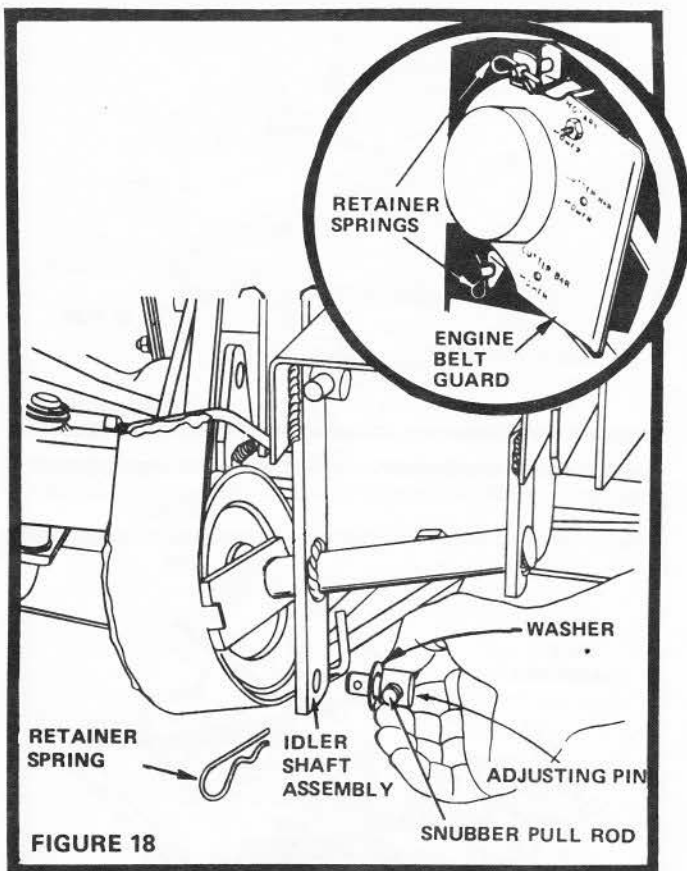
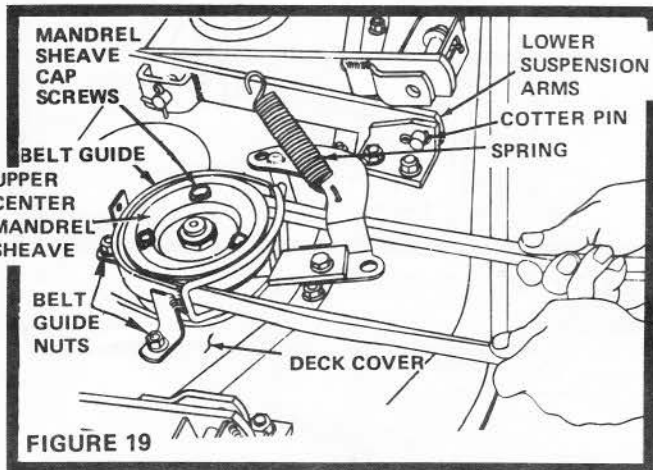
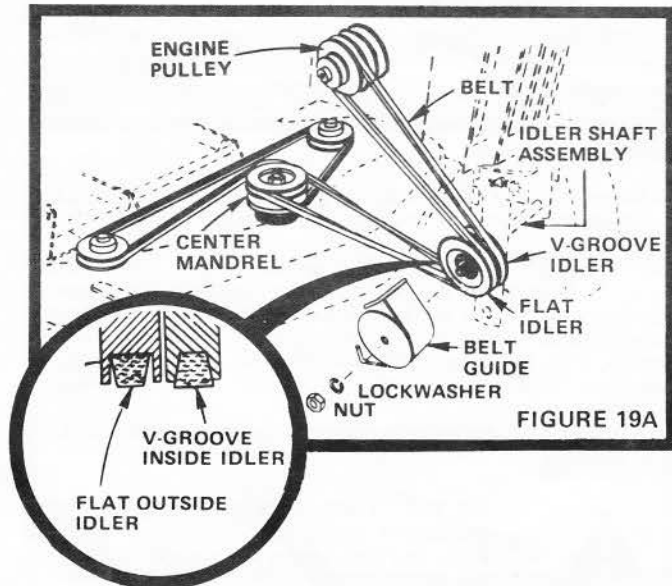

FIGURE 18
FIGURE 19
FIGURE 19A
(Refer to Fig. 18). Remove Retainer Spring from Adjusting Pin on Snubber Pull Rod in Idler Shaft Assembly. Remove Adjusting Pin from hole.
1. Unhook Spring from rear belt guide bracket of Belt Guide (Fig. 19).
2. Remove Belt Guide at center mandrel by removing three (3) Nuts and Lockwashers.
3. Remove Nut and Lockwasher from Idler Shaft Assembly and remove Belt Guide (Fig. 19A). Also remove Engine Belt Guard and Belt (Fig. 18).
4. Install new Belt on Center Mandrel first, then on Idler Sheaves and on Engine Pulley. NOTE: See Fig. 19A for proper way of installing Belts on Idler Sheaves. Backside (outside) of Belt must be placed in flat (outside) Idler. Belt must be placed in largest groove of Engine Pulley. Replace Belt Guide securely.
5. Replace Engine Belt Guard (Fig. 18).
6. Replace Belt Guide and snubber at center mandrel and adjust so that there is 1/16 to 1/8 inch clearance between it and the Sheave. Replace Spring (Fig. 19). Adjust drive belt and snubber refer to page 4, steps 1 thru 8.
2. Unhook Spring from rear of Belt Guide. Remove Belt Guide at Center Mandrel by removing the 3 Belt Guide Nuts, Lockwashers and Flat Washers (Fig. 19).
3. Remove Belt from top groove of Upper Center Mandrel Sheave (Fig. 19).
4. Remove Cotter Pins at front of Lower Suspension Arms (Fig. 19).
6. 48" MOWER ONLY. Remove the 3 Cap Screws and Lockwashers and remove Upper Center Mandrel Sheave (Fig. 19).
19. With Main Drive Belt in position, replace Belt Guide and Snubbers at Center Mandrel. Adjust so that there is 1/16 to 1/8 inch clearance between Belt Guide and Sheave (Fig. 19).
20. Replace Suspension Arms in their original position and secure with Cotter Pins (Fig. 19).
2. Remove Engine Belt Guard (Fig. 18).
5. (Refer to Fig. 18). Remove Retainer Spring from Adjusting Pin. Remove Adjusting Pin from Idler Shaft Assembly. Unhook Spring from Idler Frame and Front Axle Bracket. (Fig. 5). Remove Idler Shaft Assembly from front of tractor and place on ground between front wheels.